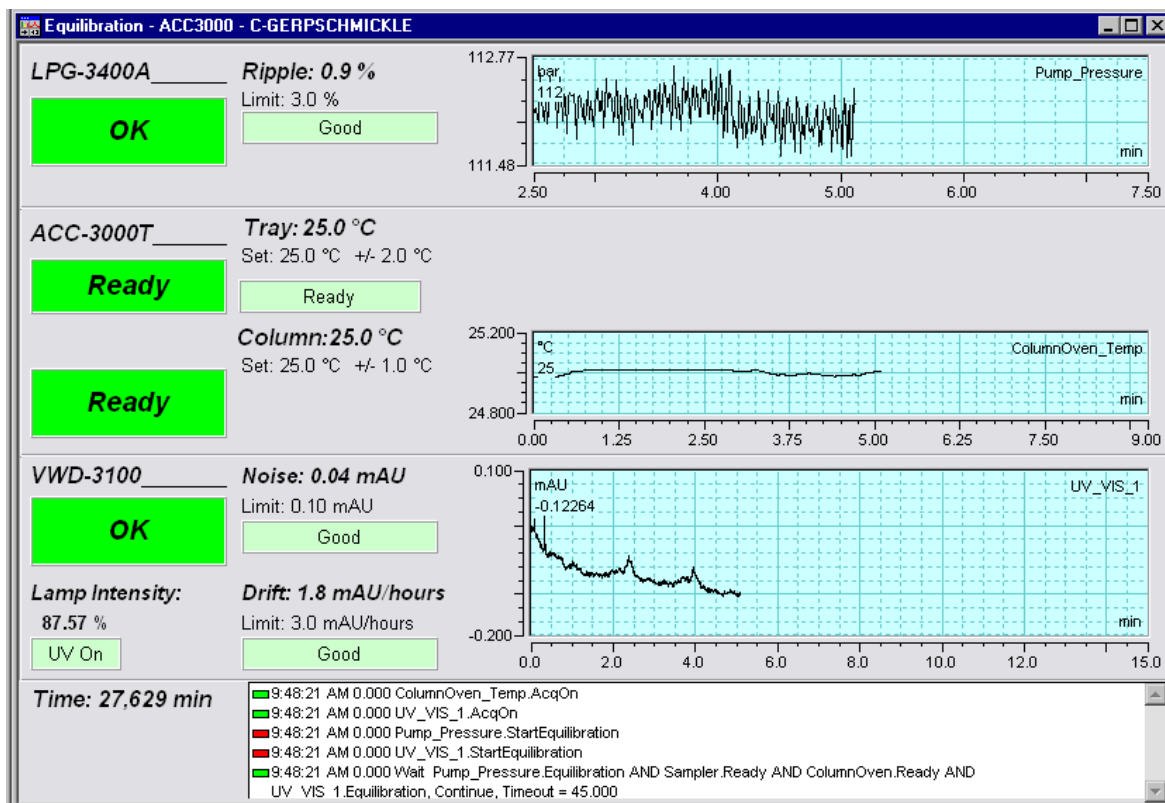

Fig. 24: Equilibration panel
- ◆ Opens the equilibration control panel for the instruments in the timebase (→ Fig. 24, page 53).